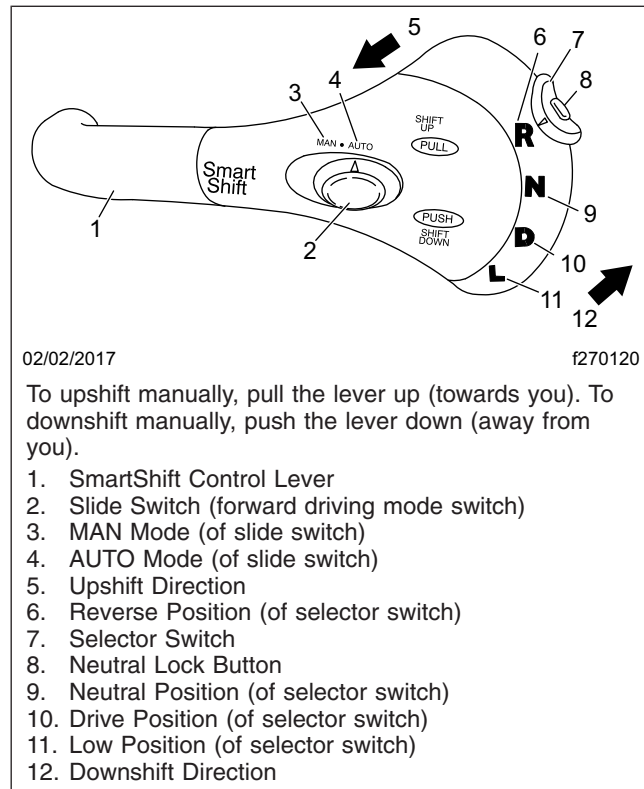
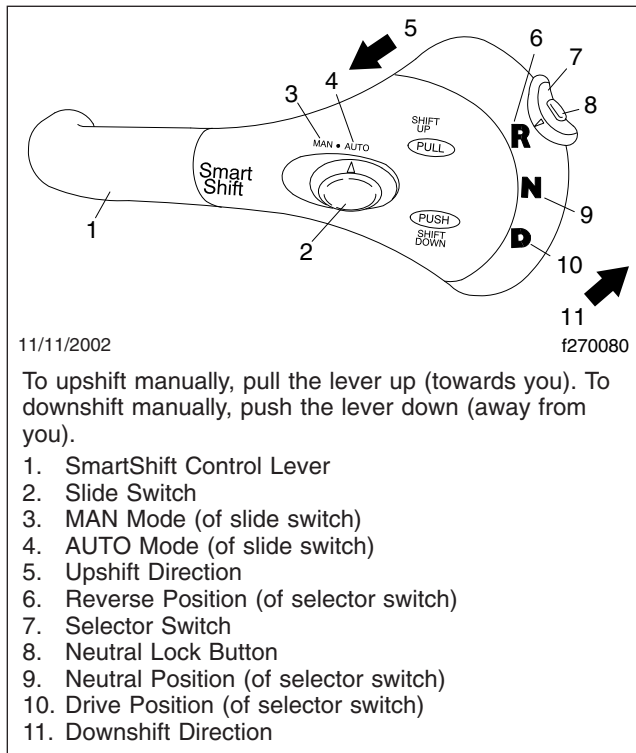

Fig. 8.1, Four-Position SmartShift Control (with Eaton Fuller AutoShift, and UltraShift PLUS)
Fig. 8.2, Three-Position SmartShift Control (with FreedomLine transmission)
For the Eaton Fuller automated transmissions, a four-position (R, N, D, L) selector switch (Fig. 8.1) is located at the end of the lever. For the FreedomLine transmission, a three-position (R, N, D) selector switch (Fig. 8.2) is located at the end of the lever.
- The SmartShift control paddle on the steering column. See Fig. 8.1.
A two-position slide switch (forward driving mode switch) is located near the end of the control (Fig. 8.1). The switch positions are labelled MAN (manual shift mode) and AUTO (automatic drive mode).
1. With the parking brake engaged and/or the brake pedal pressed down, select neutral (N) by pressing in the safety release and moving the selector switch to the center position. See Fig. 8.2.